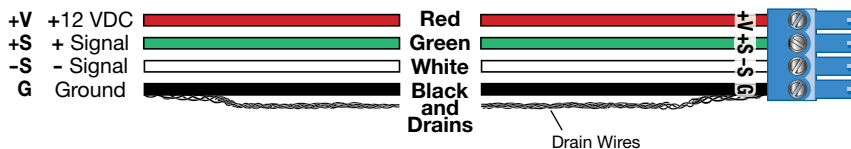

Figure 4. Basic ACP Connector Wiring
2. Connect ACP panels to each other if multiple panels are being used in the control system (see figure 4 below for correct wiring).